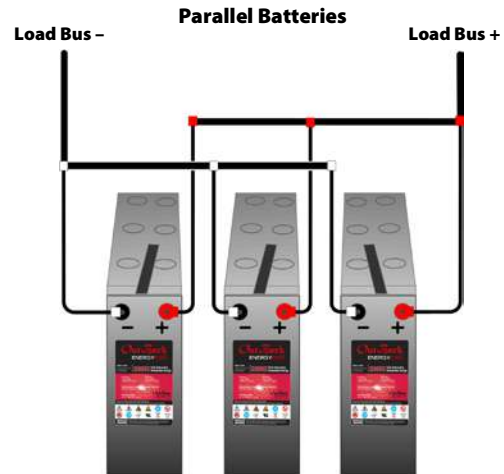

Figure 9 Parallel String Configuration
8. Install parallel connections. Parallel connections are made from the positive terminal of one battery or string to the positive of the next; negative connections are made similarly. (See Figure 9 on page 11.) External cables or bus bars must be provided. The interconnecting bar included with front-terminal batteries cannot make parallel connections.